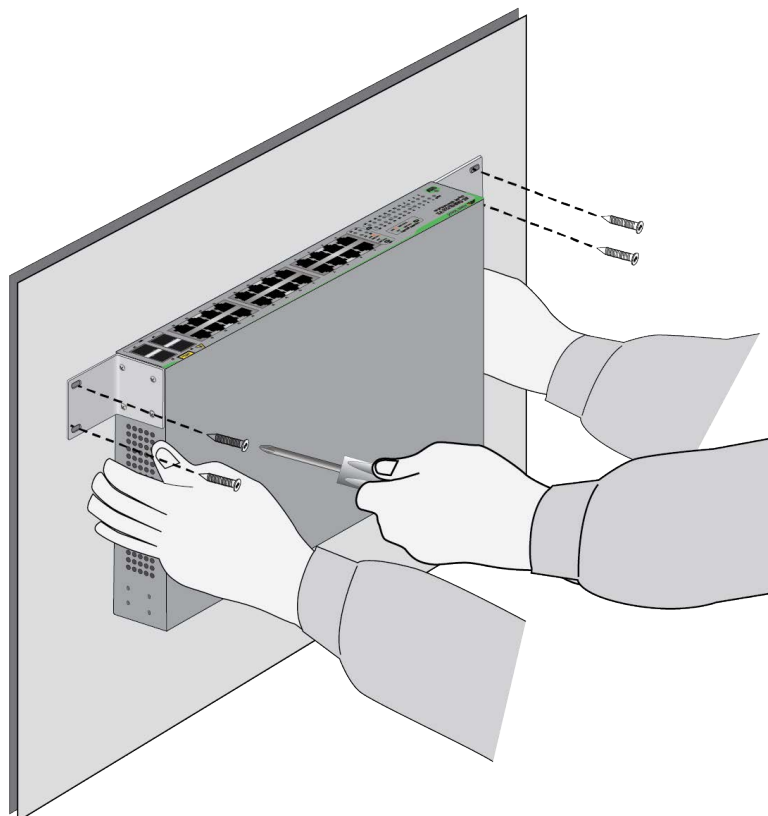

Figure 49. Installing the Switch on a Concrete Wall
7. Have another person hold the switch at the selected wall location while you secure it to the wall with the four provided screws. Refer to Figure 49 on page 72.